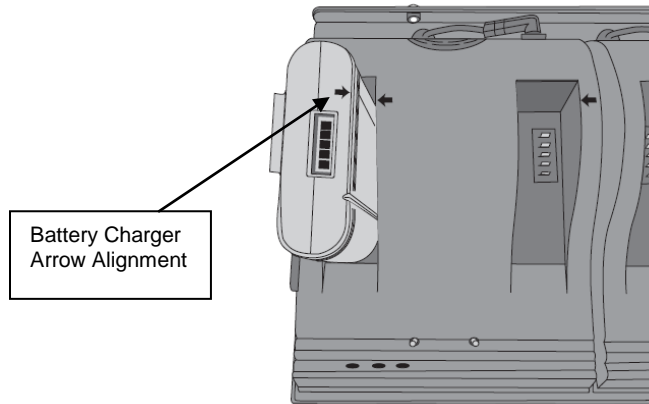

Figure 3: Battery Charger Arrow Alignment
4. Align the arrows of the Battery and the Charger to ensure that the Battery makes contact with the Charger (see figure 3).